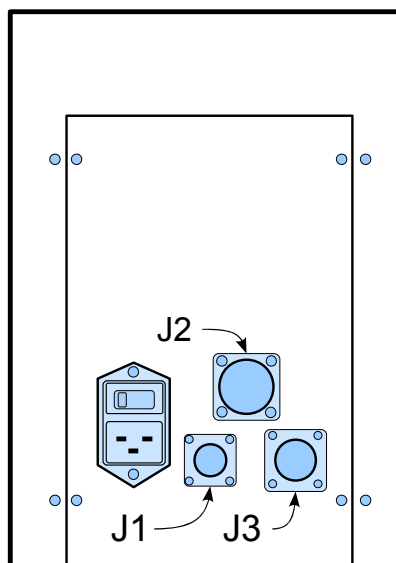

Figure 13: Power Unit Connector Locations
- 1) The **slack/broken chain** and **lower limit switches** are wired into the same four-pin circular connector. Insert the connector into the lower left jack (J1 on Figure 13). Rotate the body of the connector until it matches the receptacle, then plug it in and turn the coupling ring clockwise approximately one turn (until you feel a “click”) to complete the mating.
- 2) The **lower call-send switch** connects through a seven-pin connector (J3 on Figure 13). Insert the connector into the lower right jack. Rotate the body of the connector until it matches the receptacle, then plug it in and turn the coupling ring clockwise approximately one turn (until you feel a “click”) to complete the mating.
- 3) The **guide rail cable** also carries the **upper call-send switch** and **platform controls/follow cable**. It exits the rail near the foot and connects through a 14-pin connector (J2 on Figure 13). Insert the connector into the upper center jack. Rotate the body of the connector until it matches the receptacle, then plug it in and turn the coupling ring clockwise approximately one turn (until you feel a “click”) to complete the mating.
- Check that the three connectors on the front panel of the power unit are securely plugged in (Push in and turn the coupling ring to the right.) **Tip:** the slack and broken chain switches share the J1 connector (see Figure 13) with the lower limit switch. If one is not working, the other may not be, too.